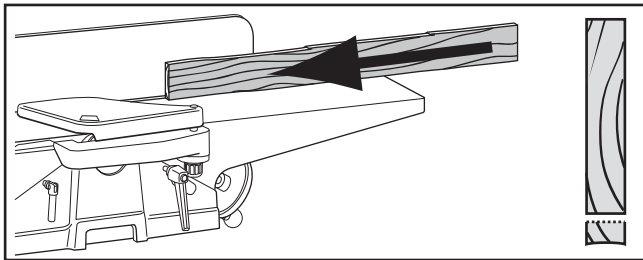

Figure 50. Edge jointing on jointer.
1. Edge joint concave edge of 7' long 2x4 flat on jointer, as shown in **Figure 50**.